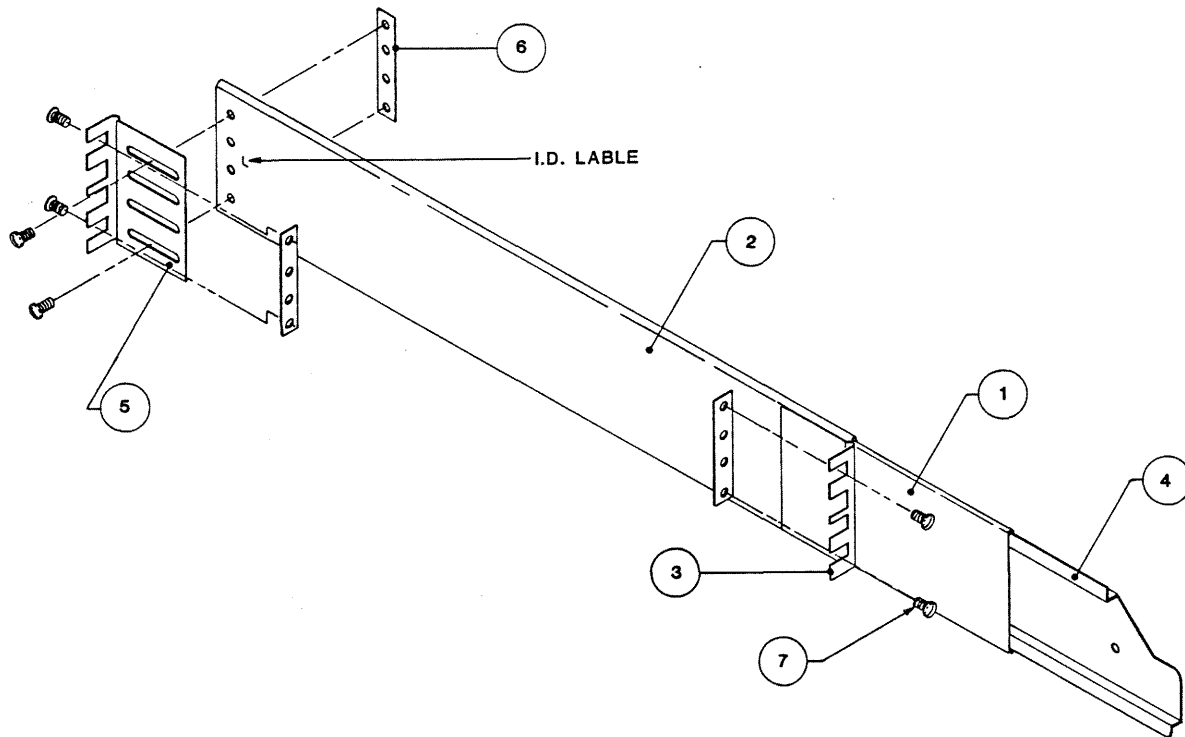

Figure 2-11. Track Subassembly Mounting
- A. Referring to Figure 2-11, Install the Right Track Assembly on the right side of the 19-inch Rack as follows:
1. Using the 10-32 Slotted Screws (7) and Nut Plates (6)\* provided, loosely assemble an Adjustable Mounting Bracket (5) to the rear of the Right Track Assembly.
3. Aligning the bottom of the Fixed Mounting Bracket (3) at the 2-inch mark on the front of the 19-inch Rack, and using the 10-32 Screws (7) provided, mount the Fixed Mounting Bracket (3) to the front of the 19-inch Rack, and mount the Adjustable Mounting Bracket (5) (loosely attached to the rear of the Center Track) to corresponding holes in the the rear of the 19-inch Rack. Level the Track and tighten all Screws.